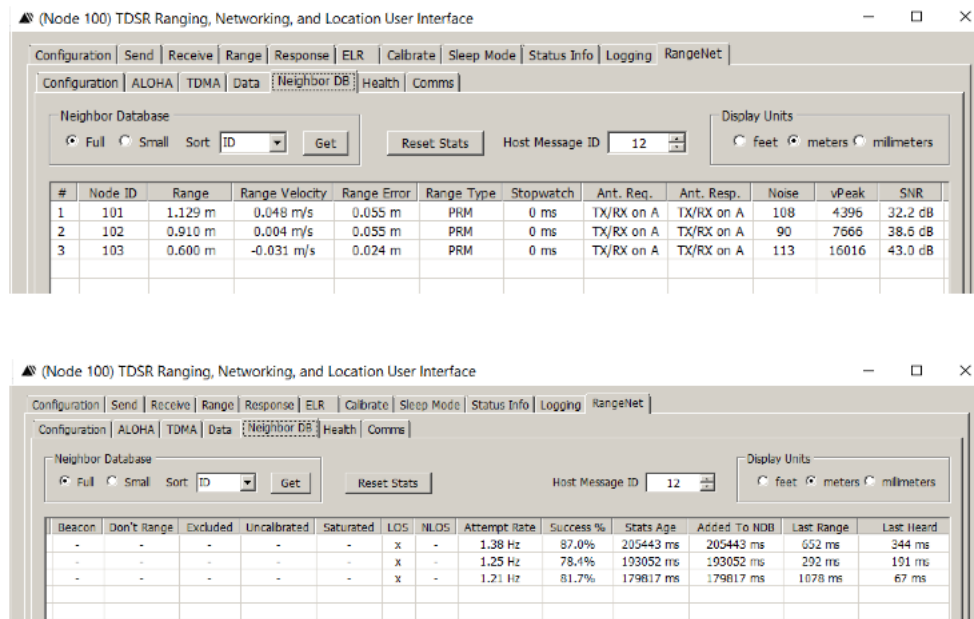

Fig. 2-6: Representative neighbor database of a 4-node system
- Monitor the database at whatever update rate the user finds useful. **Figure 2-6** illustrates the database from a 4-node system. Note the extent and volume of statistics maintained in the database. (For details on the meaning of specific fields, refer to the RangeNet User Guide.)